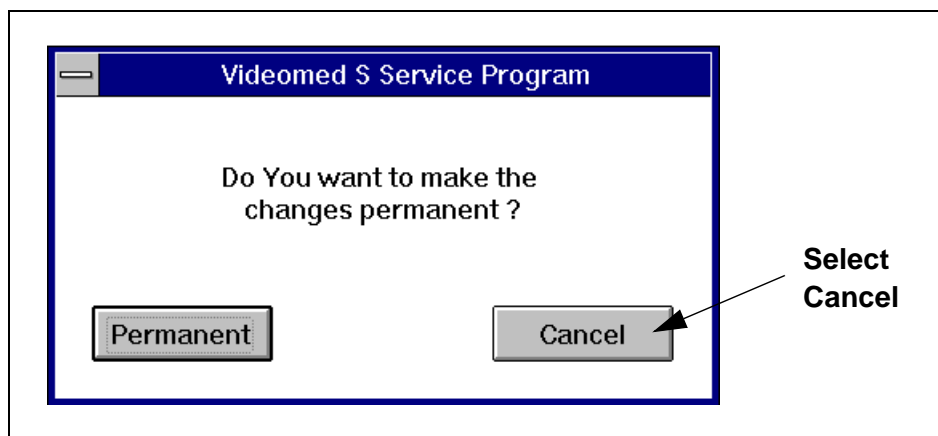

Fig. 2
- Do **not** accept the settings with **"Permanent"**, but close the mask with **"Cancel"** (Fig.2).